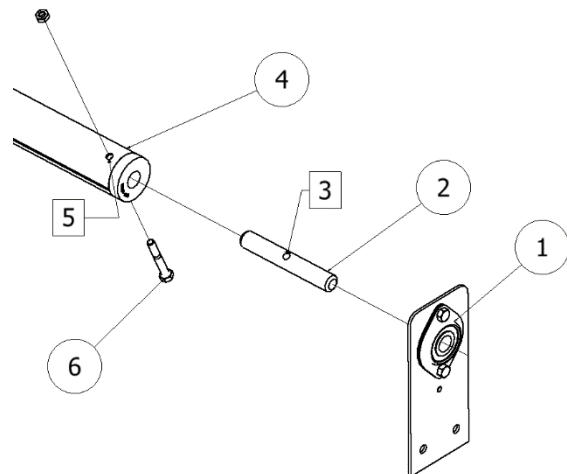

Figure 2.4
On the passenger side, feed the 5" spool shaft (2) through the bearing (1) attached to the mounting bracket. Fit the tarp axle (4) over the spool shaft. Line the tarp axle hole (5) up with the spool shaft hole (3). Secure the tarp axle to the spool shaft using the 5/16" x 2-1/4" hex bolt and hex nut (6). (Figure 2.4)